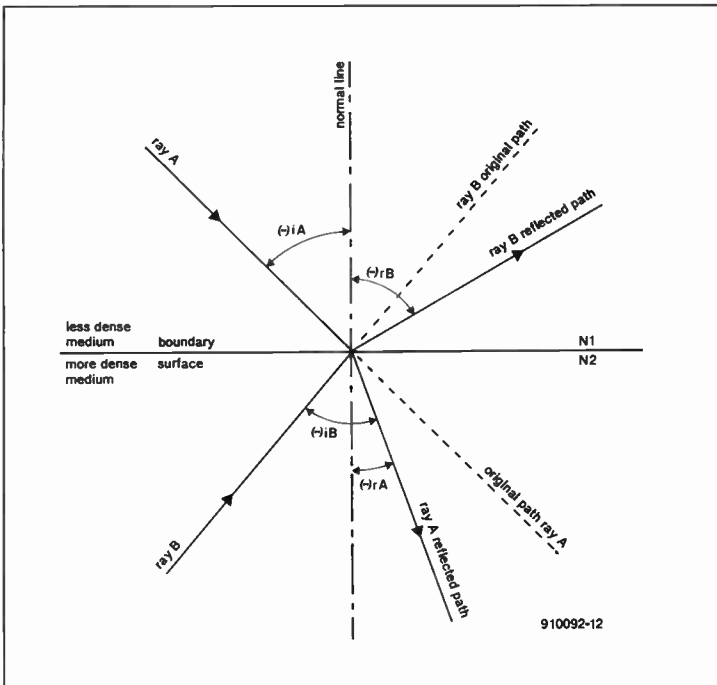
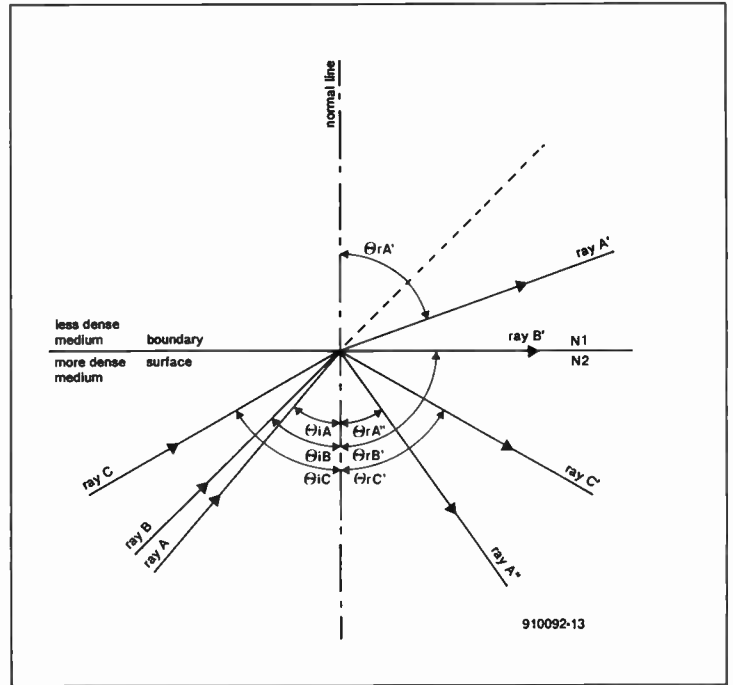

Fig. 2. Basic refraction phenomenon.
Fig. 3. Refraction involved in 'total internal reflection'.
Refraction is the phenomenon in which a light ray changes direction as it passes across the boundary surface (or 'interface') between two mediums of differing indices of refraction ($n_1 \neq n_2$). Consider Fig. 2 in which two materials, with indices of refraction n_1 and n_2 respectively. Consider incident lightray A, approaching the interface from the less dense side ($n_1 \rightarrow n_2$). As it crosses the interface it changes direction towards a line normal (i.e., at right angles) to the surface. Conversely, lightray (B) approaches the interface from the
The particular case which concerns fiber optics is where the light ray passes from a more dense medium to a less dense medium. We can use either a water to air system, or a system in which two different glasses, with dissimilar indices of refraction, are interfaced. This type of system was addressed in Fig. 2 by ray B. Figure 3 shows a similar system with three different lightrays (ray A, ray B and ray C) approach the same point on the interface from three different angles (i_a , i_b and i_c , respectively). Ray A approaches at a subcritical angle, so it will split into two portions (A' and A''). The reflected portion (A'') contains a relatively small amount of the original light energy, and may indeed be nearly indiscernible. The major portion of the light energy is transmitted across the boundary, and refracts at an angle r_a' in the usual manner.